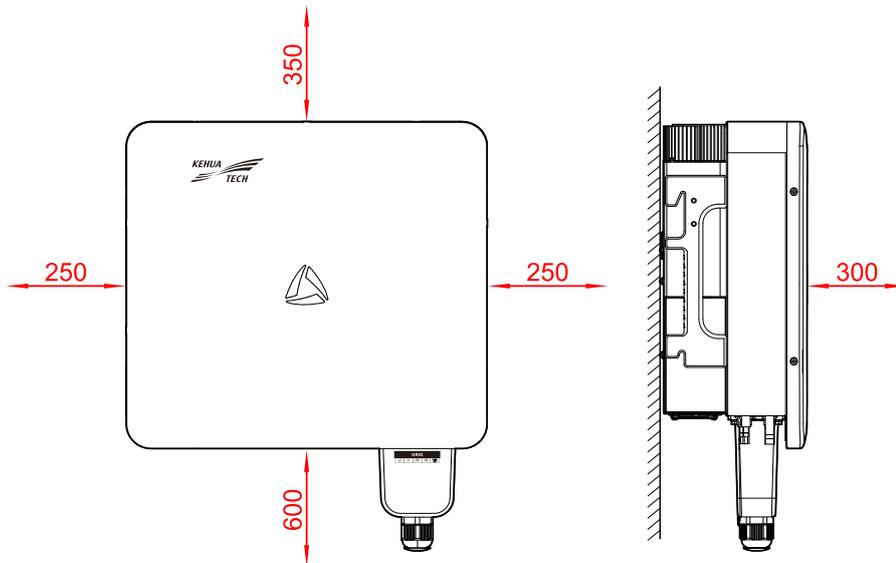
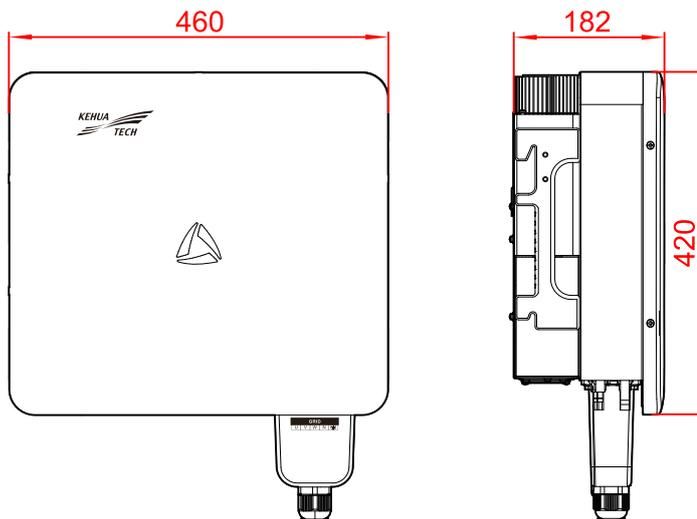

Figure3-3 Installation clearance (unit: mm)
Figure3-8 Size (unit: mm)
Keep a clearance of at least 300mm from the front of the inverter to other objects, at least 250mm from the left side and right side of the inverter to other objects, at least 350mm from the top of the inverter to ceiling and at least 600mm from the bottom of the inverter to ground, which is good for heat dissipation or maintenance, as shown in Figure3-3.
- Step 1 Determine the installation site based on the inverter size (as shown in Figure3-8) and installation clearance (as shown in Figure3-3).